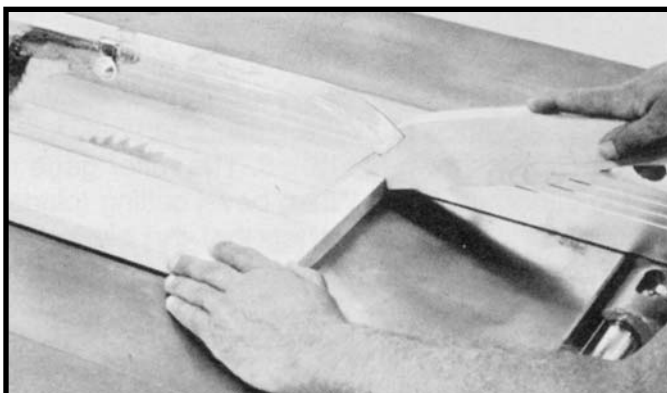

Fig. 62
2. If the ripped work is less than 4 inches wide, a push stick should always be used to complete the feed, as shown in Fig. 62. The push stick can easily be made from scrap material as explained in the section **"CONSTRUCTING A PUSH STICK."**